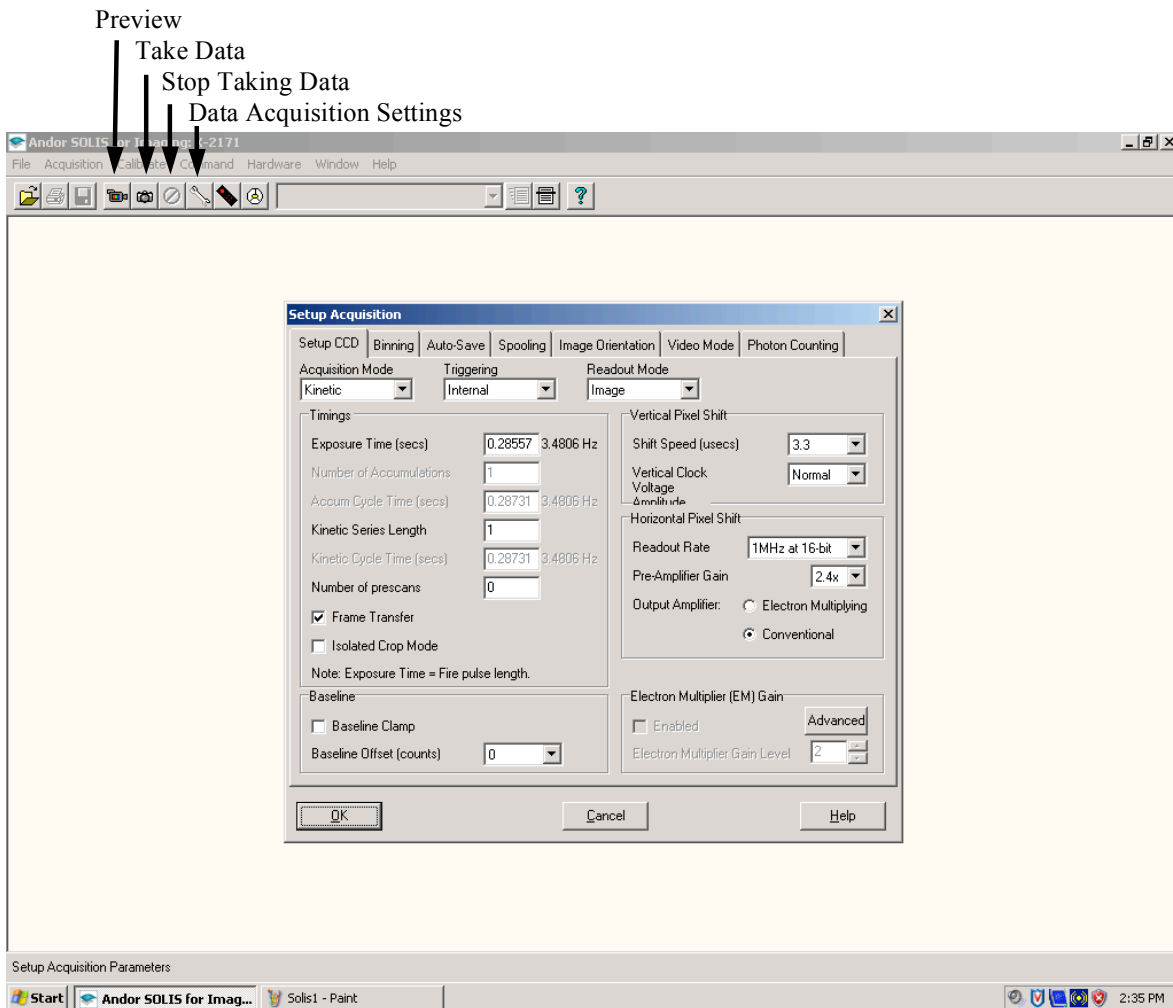

**Figure 2.** Solis v.4.6.5 (POETS camera software) as it appears upon successful startup.
- (2) **CONFIRM that the camera software starts and presents a screen like that shown in Figure 2.**